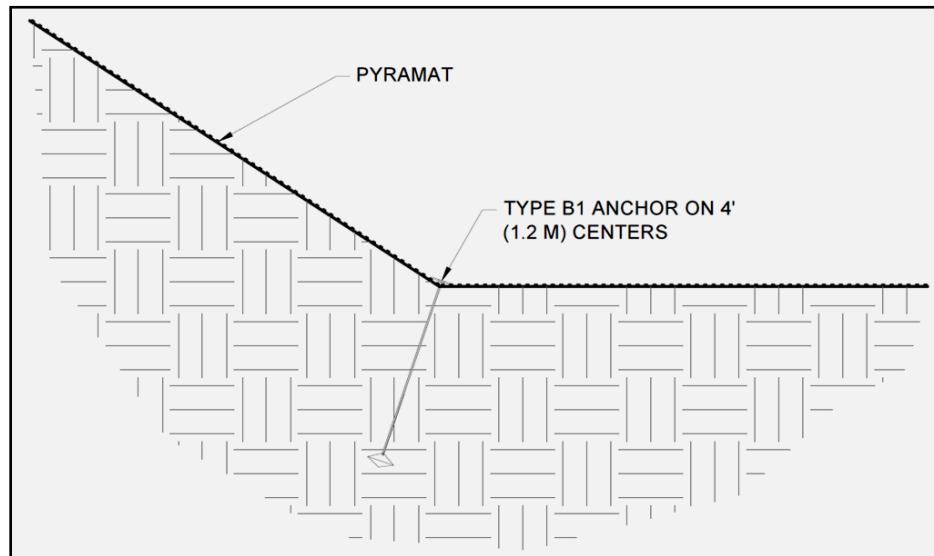

Figure 24: Break in Slope Interface
- At the break in slope interface towards the channel bed, it is suggested that PDEAs be installed on 4 ft (1.2 m) centers (Figure 24).